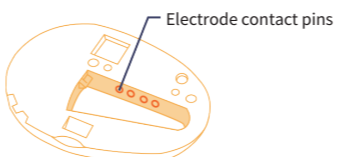

Figure 2 Transmitter Contact Pins
- Clean your transmitter (if needed): Clean the electrode contact pins (Figure 2) and the surface of the transmitter.